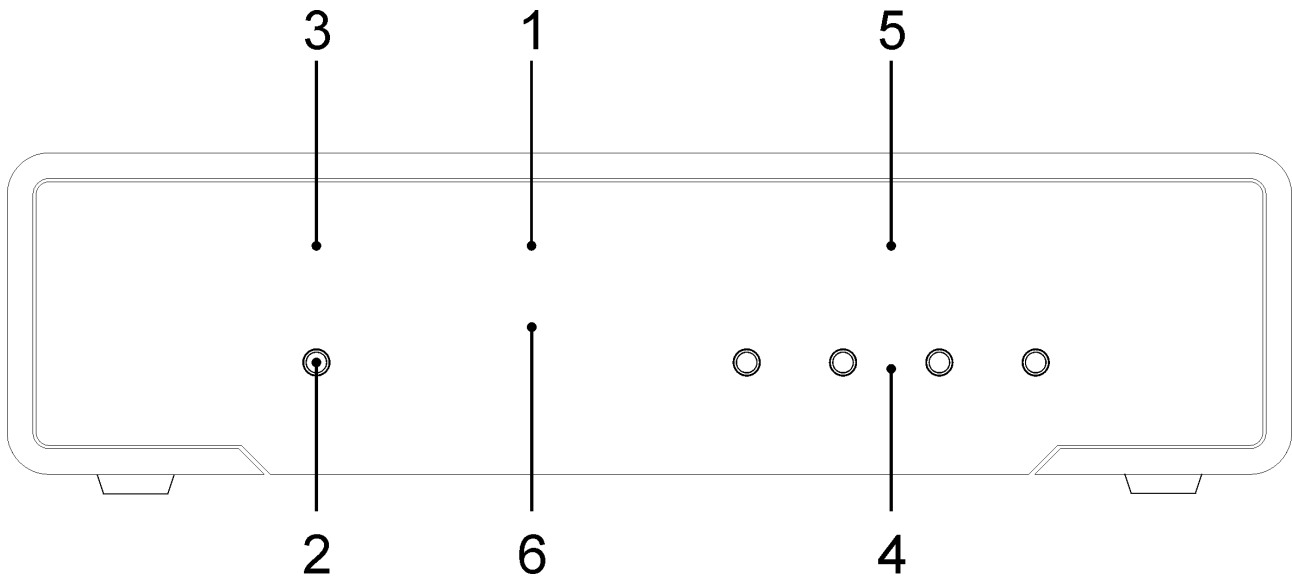
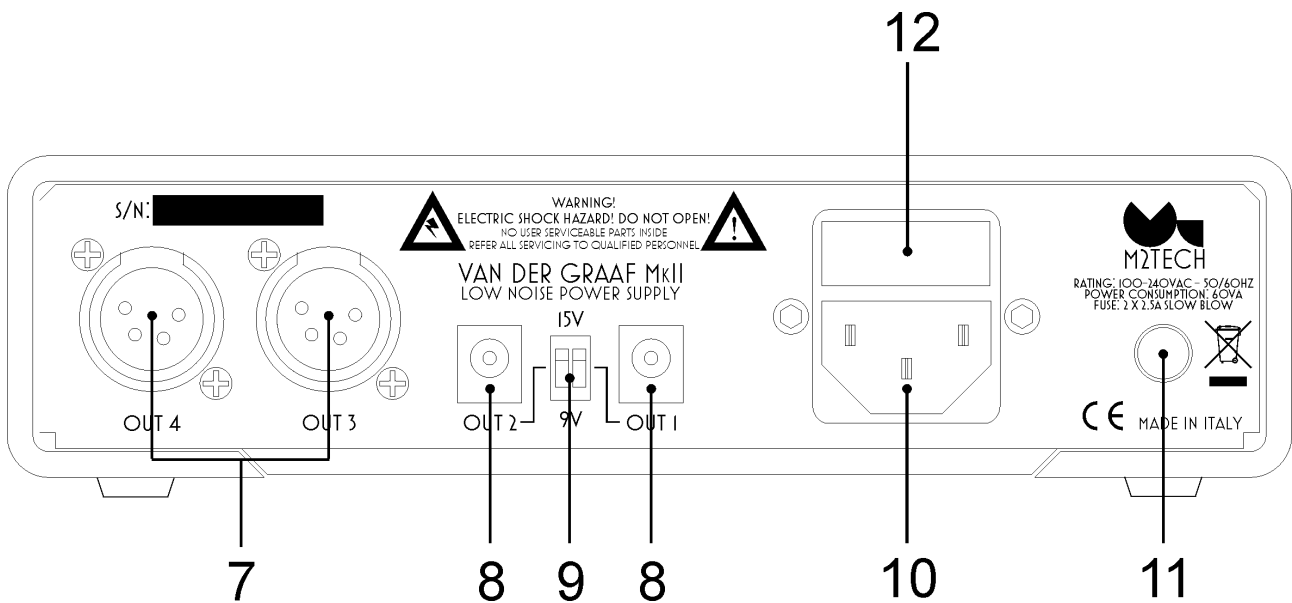

Figure 1
Figure 2
2) Global enable button. Push this button to activate the VAN DER GRAAF MKII when it's in standby (LED 1 on and LED 3 off). Following the operation of this button, all outputs previously enabled by the user with their buttons (item 4, Fig. 1) will activate, in the same sequence as the user manually activated them, with 1 second intervals. The related LED's will turn on to indicate activation. During the process, LED 3 blinks. At the end of activation process, LED 3 glows steadily. When the VAN DER GRAAF MKII is active, user may put the VAN DER GRAAF MKII in standby, disabling the outputs in reverse order with regards to activation, by pushing this button. In the process, LED 3 blinks. At the end of disable process, LED 3 turns off.
6) IR receiver. The VAN DER GRAAF MKII senses the on/off commands from other M2Tech products' remote controls, when purposely set by the user. Operation is same as the global enable button (item 2, Fig. 1).
11) Power switch. Push this switch to toggle VAN DER GRAAF MKII power. When powering the unit, the power LED (item 1, Fig. 1, Pag. 9) will glow and the VAN DER GRAAF MKII will enter standby.
Connect one or two units with +15V or +9V single supply input to VAN DER GRAAF MKII output 1 and 2 (Fig. 2, 8), using the stock cable, after selecting the right output voltage for each powered unit. For example, when powering a YOUNG MKIII with output 1, the voltage selector closest to the output socket (Fig. 2, 9) must be set to the upper position. On the other hand, when output 2 is used to power an old HIFACE EVO, then the voltage selector closest to it must be set to the lower position.
Connect one or two units with composite supply input (+5V/+15V/-15V) to VAN DER GRAAF MKII output 3 and 4 (Fig. 2, 7), using the stock cables. One such unit is, for example the NASH.
Connect the stock power cord to VAN DER GRAAF MKII power socket (Fig. 2, 10) and to a wall outlet.
Push the power switch on the back panel (Fig. 2, 11) to turn the VAN DER GRAAF MKII on. The power LED on the front panel (Fig. 1, 1) will glow. The VAN DER GRAAF MKII will enter standby, waiting for enabling by the user.
Push the global enable button (Fig. 1, 2). At first enable, this action will have no effect on outputs. At following enables, if the user has previously enabled one or more outputs, they will activate in the same order as the user manually enabled them.
When the VAN DER GRAAF MKII is in standby (only power led on, item 1, Fig. 1, Page 9), it is possible to activate it pushing the global enable button (Fig. 1, 1) or, when purposely set, by sending an on/off command from an M2Tech Rockstars product's remote control. Immediately after this, the global enable LED (Fig. 1, 3) starts blinking and the previously enabled outputs are activated in the order chosen by the user, at one second intervals. At the end of the activation process, the active outputs are indicated by the related LED, which is on, and the global enable LED glows steadily.
NOTE: the outputs activation sequence is stored by the VAN DER GRAAF MKII when it enters standby. If the power switch (Fig. 2, 11, Page 11) is used to shut down the VAN DER GRAAF MKII, then the sequence, even if changed from the previous standby, is not stored and the VAN DER GRAAF MKII will use the last stored sequence upon following activation, not the latest one.